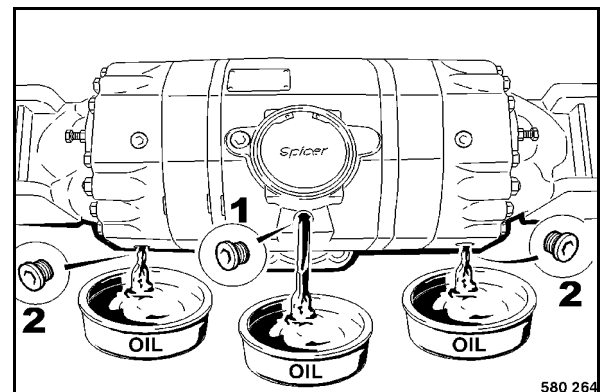

Fig. 164
- Clean and unscrew all level inspection and drain plugs (Fig. 164).